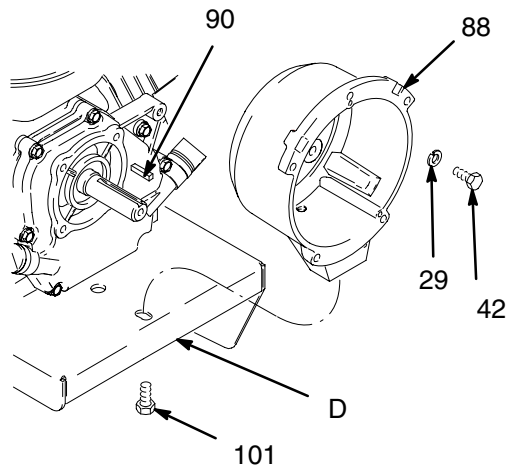

Fig. 16
1. Fig. 16. Remove four capscrews (42) and lockwashers (29) which hold clutch housing (88) to engine.
2. Remove screw (101) from under mounting plate (D).
3. Remove engine key (90).
4. Pull off clutch housing (88).
1. Fig. 16. Push on clutch housing (88).
2. Install four capscrews (42) and lockwashers (29) and secure clutch housing (88) to engine. Torque to 200 in-lb (22.6 N•m).
3. Install capscrew (101) from beneath mounting plate (D). Torque to 26 ft-lb (35.2 N•m).